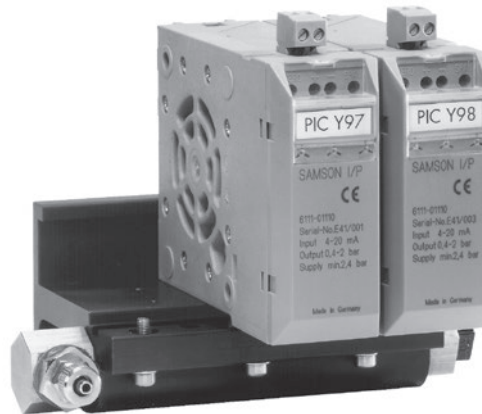

Fig. 4: Supply air manifold for Type 6111
- Supply air manifold for rail-mounting units available as accessories for 3, 4, 5 and 6 converter units (Fig. 4)